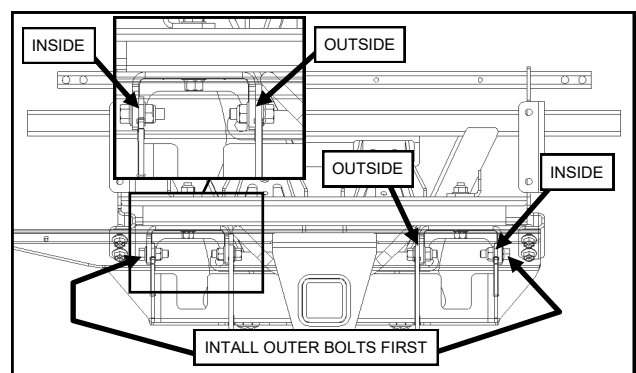

Fig. 2.3 (Plow Mount, Hanger)
- 2.3 Place the Plow Mount assembly against the vehicle frame on the previously installed Hanger brackets. Make sure the mount is installed on the inside of the outer hanger flanges and the outside of the inner flanges. Install (4) 7/16" X 1-1/4" bolts and (4) 7/16" nuts per figure 2.3. Leave loose.